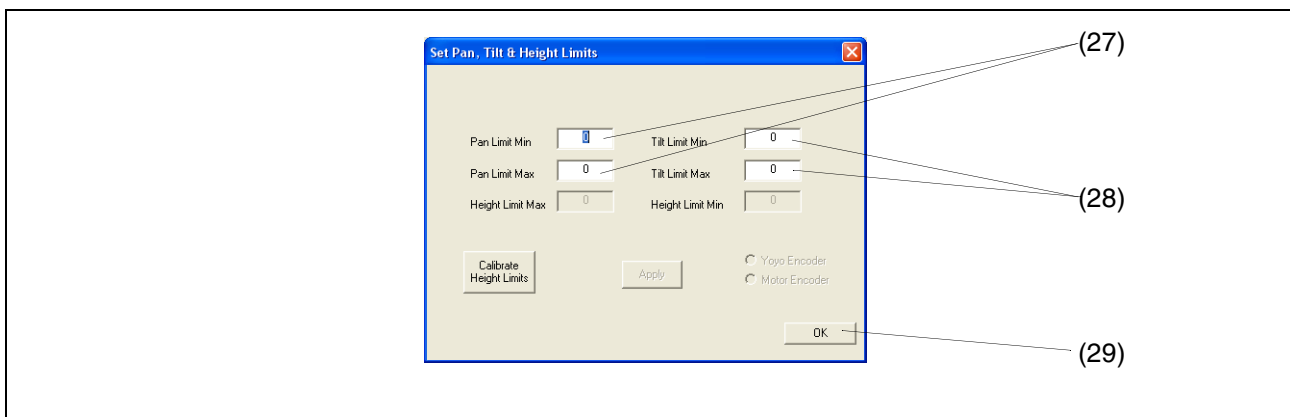

Fig 5 Set pan, tilt & height limits form
8. From the 'Set Pan, Tilt & Height Limits' form (Fig 5), type in the allowed angle of travel (in degrees) either side of the zero datum position for both pan (27) and tilt (28) axes.